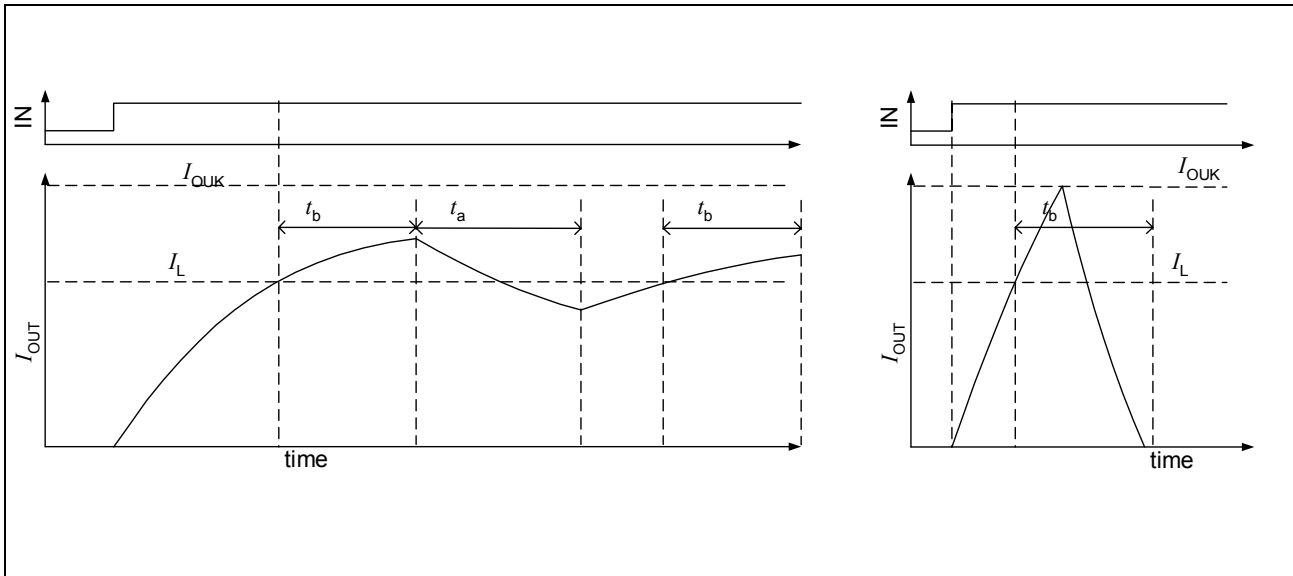

Figure 5 Short to V_S detection. Left: normal operation. Right: short circuit is detected
Due to the chopper current regulation, the low-side switches are already protected against a short to the supply voltage. To be able to distinguish a short circuit from normal current limit operation, the current limitation is deactivated for the blanking time t_b after the current has exceeded the current limit threshold I_L . If the short circuit detection current I_{OUK} is reached within this blanking time, a short circuit is detected (see **Figure 5**). All output transistors are turned OFF and the according error bit "Short Circuit to Battery on output 1 (2)", SCB1 (SCB2) is set.